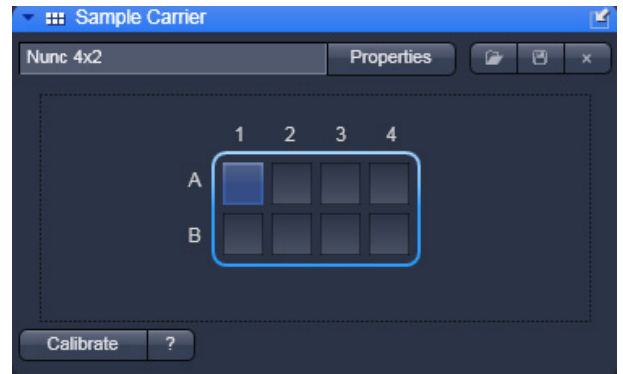

Fig. 298 Sample Carrier tool
- Click on the **Sample carrier** tool tab to open the **Sample Carrier** tool (Fig. 298).